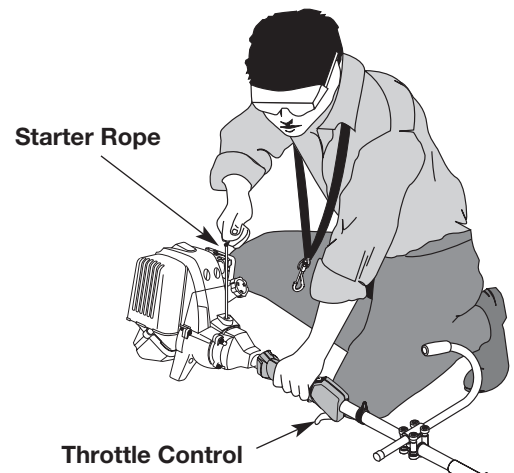

Fig. 21
**WARNING:** Avoid accidental starting. Make sure you are in the starting position when pulling the starter rope (Fig. 21). To avoid serious injury, the operator and unit must be in a stable position while starting. Make sure that any Add-On item is installed correctly and secure before starting the unit.
4. With the unit in the starting position, **do not squeeze the throttle control** (Fig. 21). Pull the starter rope out a short distance, until you feel some resistance. This is usually around 2-4 inches. Then pull the rope smoothly and briskly. Repeat this 5 times. The engine should start.